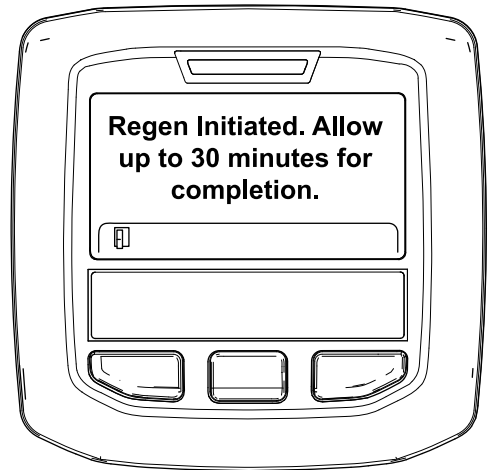

Figure 11
- If the regeneration is allowed, the “Regen Initiated. Allow up to 30 minutes for completion” message displays in the InfoCenter, wait for the machine to complete the parked regeneration process (Figure 11).